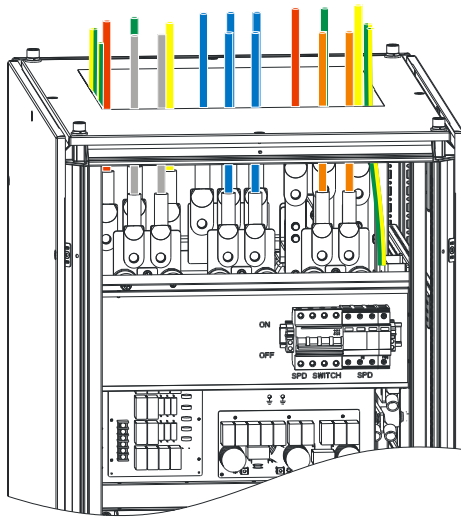

Figure3-24 Wiring diagram of PS200KVA, PS300KVA (top
Step 3 After finishing the wire connection, install the top cover, and then the wiring is completed. The wiring diagram is as shown in Figure3-24.